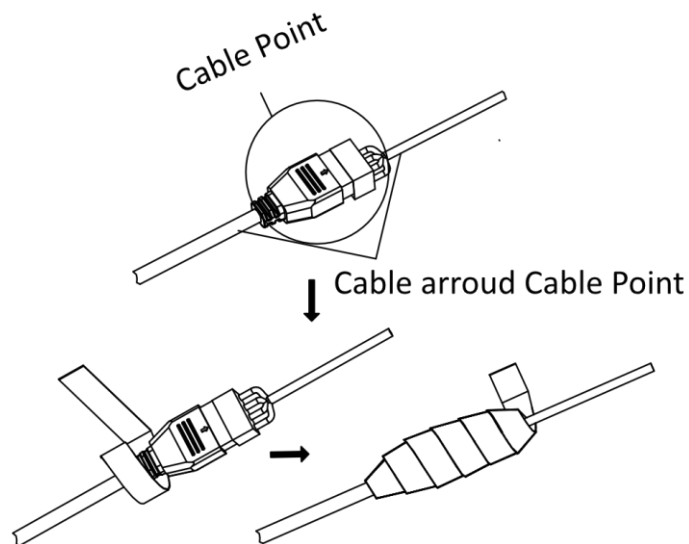

Figure 4-2 Wrapped Waterproof Tape
Step 3 After stretching, the waterproof tape is tightly wound on the terminal and the nearby cables in a half-lap way until the terminal and the nearby cables are wrapped in the waterproof tape. Please pay attention to keep the waterproof tape taut during the winding process, as shown in Figure 4-2.